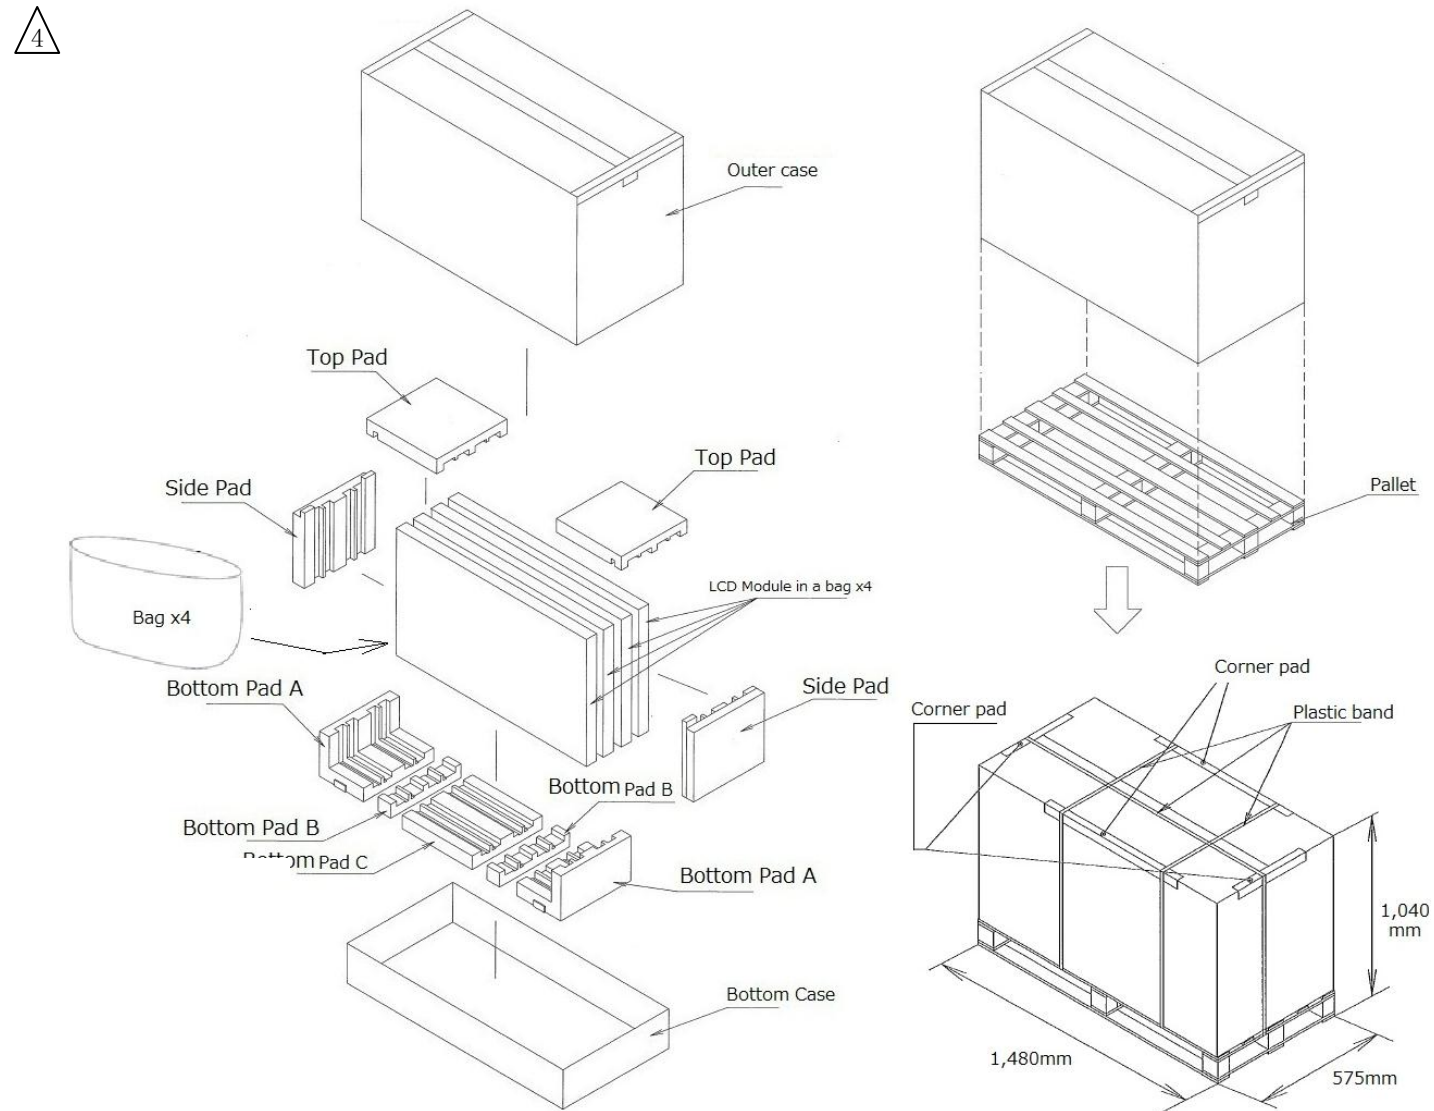

Fig.2 PACKING FORM
c) Pallet size: 1480 (W) \times 575 (D) \times 1040(H) mm \triangle_4
e) Packing Form are shown in Fig. 2 \triangle_3